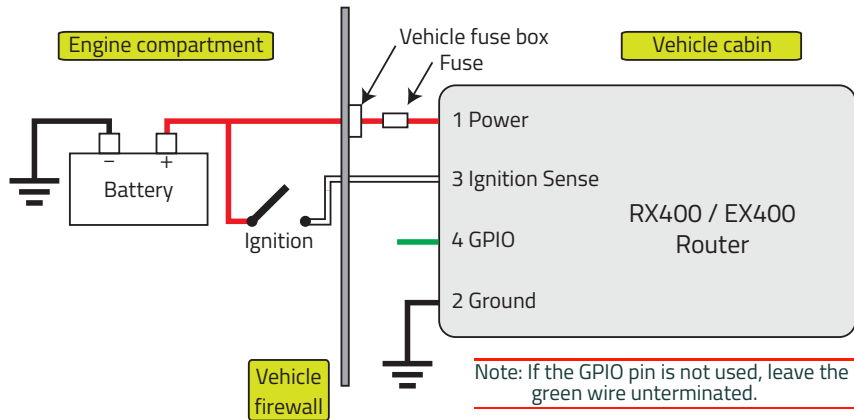

Figure 2-6: Vehicle Installation Wiring Diagram — Recommended Basic Method
7. Use a 4.0 A fast-acting fuse, recommended to have no more than  $\pm 10\%$  derating over the operating temperature range, to connect the red (Power) wire on the DC power cable to the vehicle's fuse box. (e.g., Figure 2-6.)
For most vehicle installations, Semtech recommends connecting the white Ignition Sense wire to the vehicle's ignition switch, as shown in Figure 2-6.